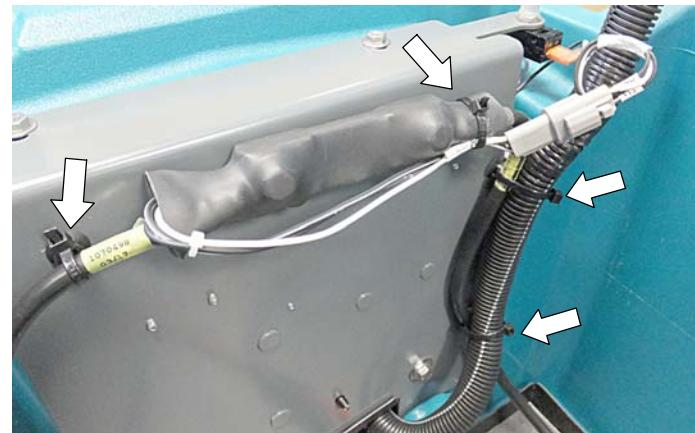

Fig. 9
5. Secure the telemetry harness assembly to the electrical panel with cable-ties as shown (Figure 9). Then re-connect the machine harness and battery cable to the electrical panel with cable-ties [130773].